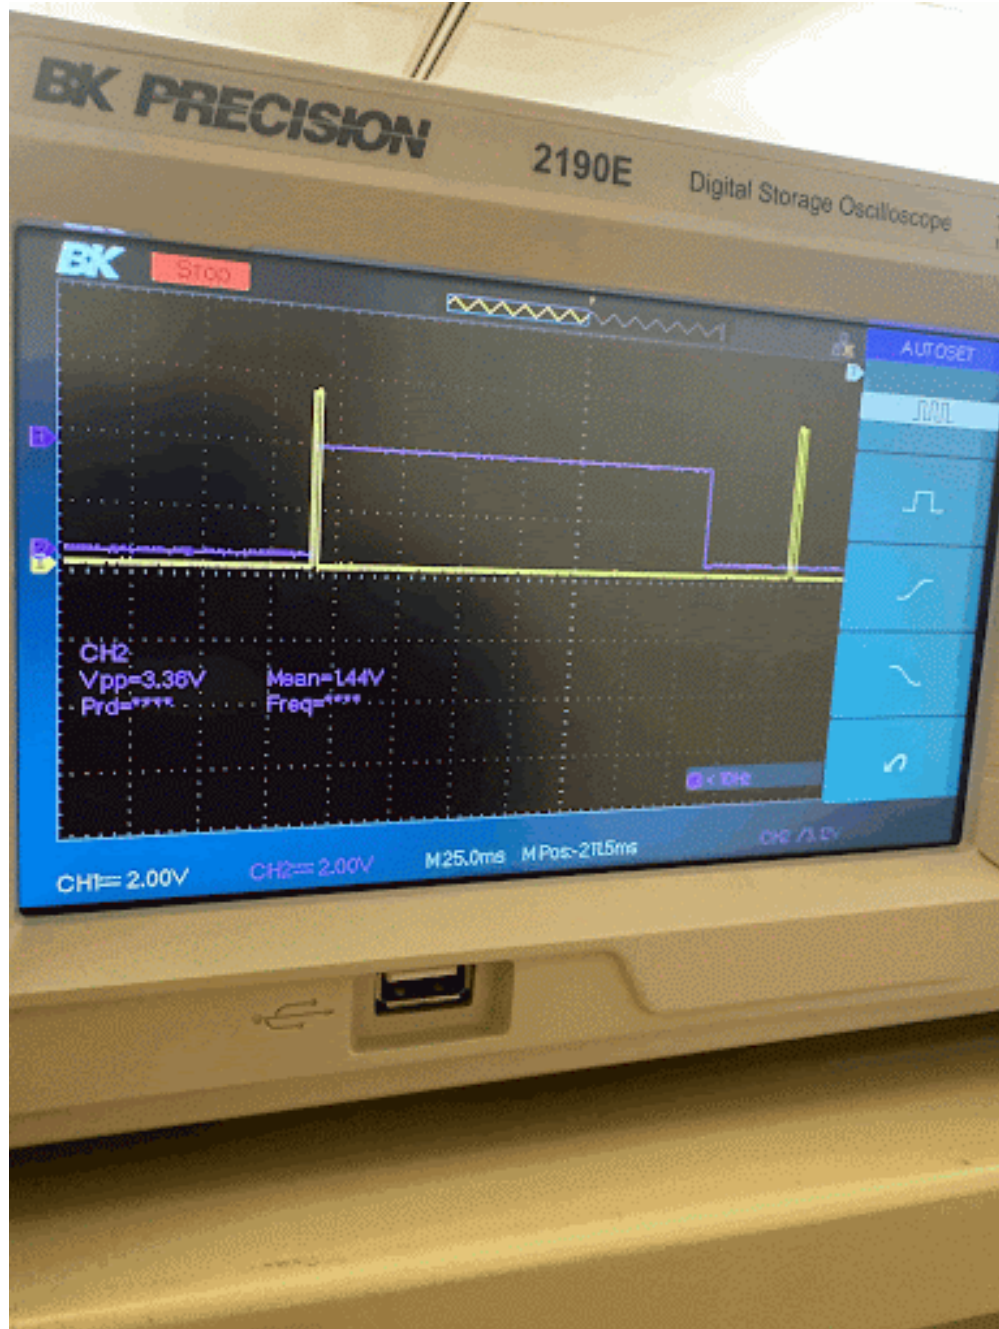

Figure 3
- **Figure 3:** Oscilloscope capture of SPI transmission. Yellow marks the beginning(rising edge) of the string, as purple marks the continuation of the transmitted string "Who Am I" over SPI